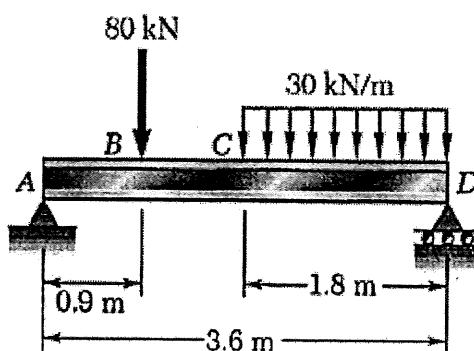

Figure 4
- b) The structure in Figure 4 consists of a simply supported beam with loaded as shown. Knowing that the allowable normal stress for the grade of steel to be used is 160 MPa.